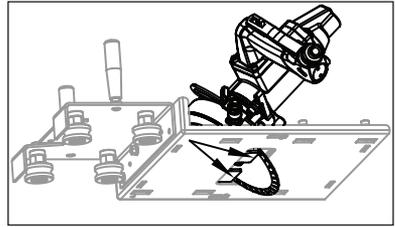

Figure 5
2. Place the Stone Cutter with the blade already mounted and positioned in the 45 degree angle onto the Carriage Base. Align the Stone Cutter so the blade makes flush contact with Template-M1. (See Figure 5)